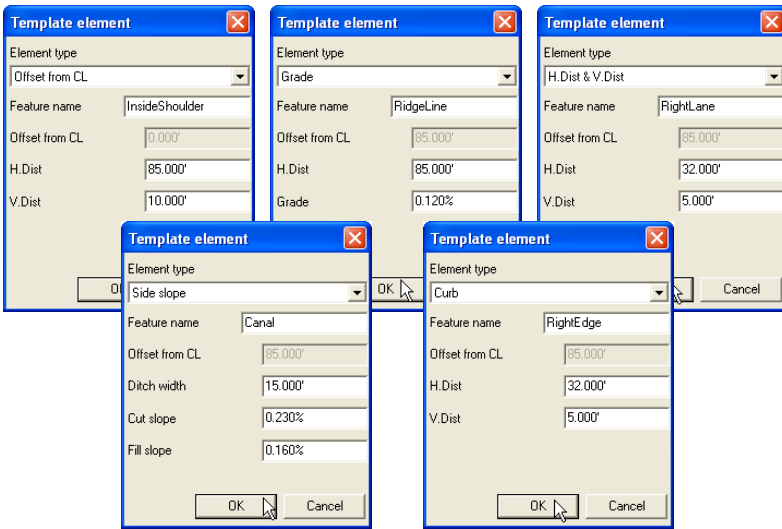

Figure 6-36. Template Element Dialog Boxes
- On the **Template element** dialog box, select the type of element and enter the required information. The fields differ depending on the element selected (Figure 6-36 on page 6-30).
- Offset from CL – the offset from the centerline displays; the offset for the first element will always be Zero (0).